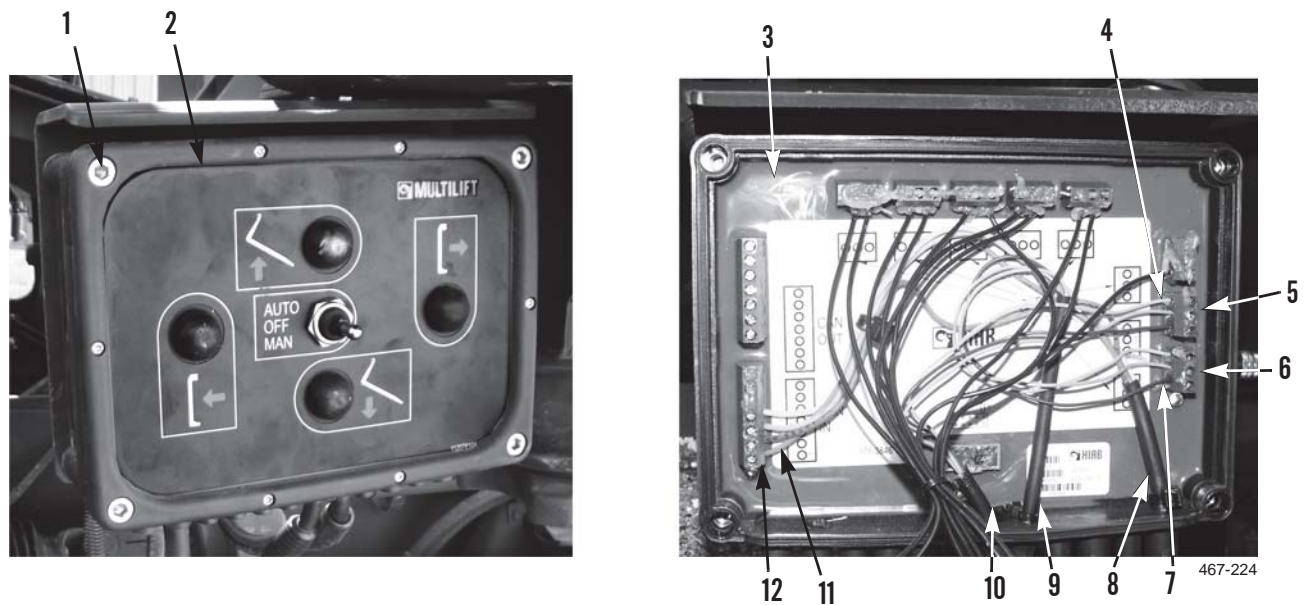

Figure 7. Stowage Control Unit Harness Installation.
1. Route RH twistlock wiring harness (Figure 7, Item 9) into stowage control unit (Figure 7, Item 3) and install blue, brown, and black wires (Figure 7, Item 7) on connector P10 (Figure 7, Item 6).
2. Route LH twistlock wiring harness (Figure 7, Item 10) into stowage control unit (Figure 7, Item 3) and install blue, brown, and black wires (Figure 7, Item 4) on connector P9 (Figure 7, Item 5).
3. Route CAN bus wiring harness (Figure 7, Item 8) into stowage control unit (Figure 7, Item 3) and install yellow, orange, red and brown wires (Figure 7, Item 11) on connector P1 (Figure 7, Item 12).
4. Install cover (Figure 7, Item 2) on stowage control unit (Figure 7, Item 3) and tighten four bolts (Figure 7, Item 1).